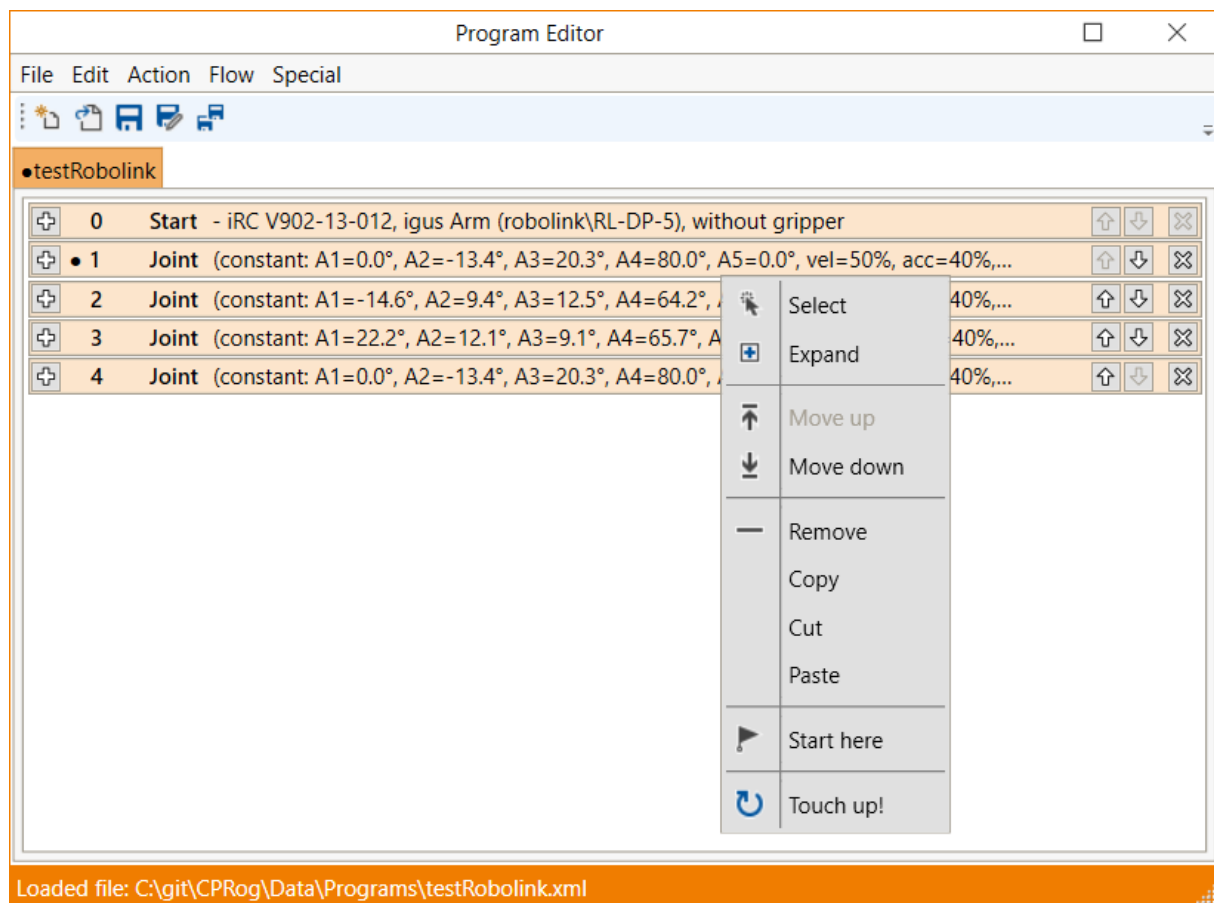

Figure 33: The context menu of a command
To move a command, use the arrows on the right side of the command line. Alternatively, you can click "Down" or "Up" from the command context menu (see Fig. 33).
- Open the context menu by right-clicking on the command and click on "Touch Up!" (see Fig. 33).
To select a specific command as the starting point for execution, click on "Start Here" in the context menu (see Fig. 33).